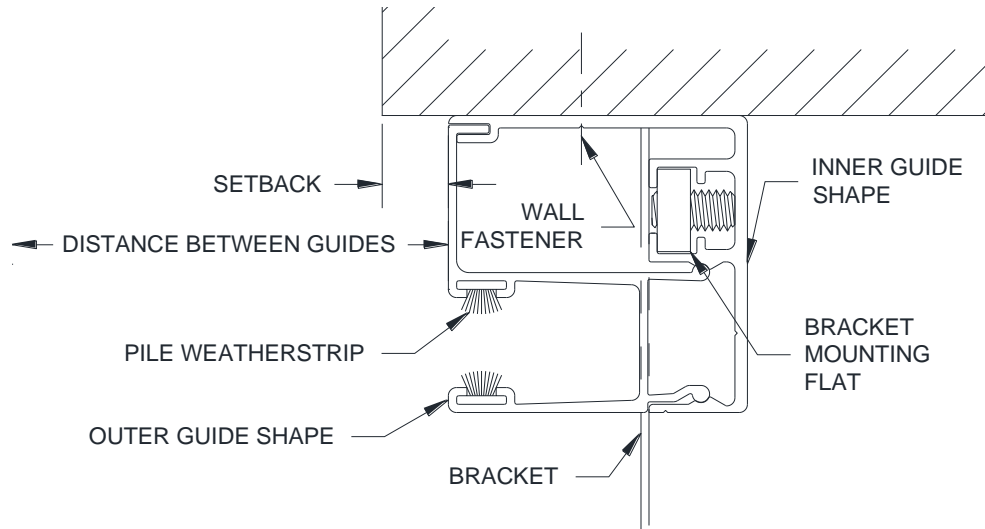
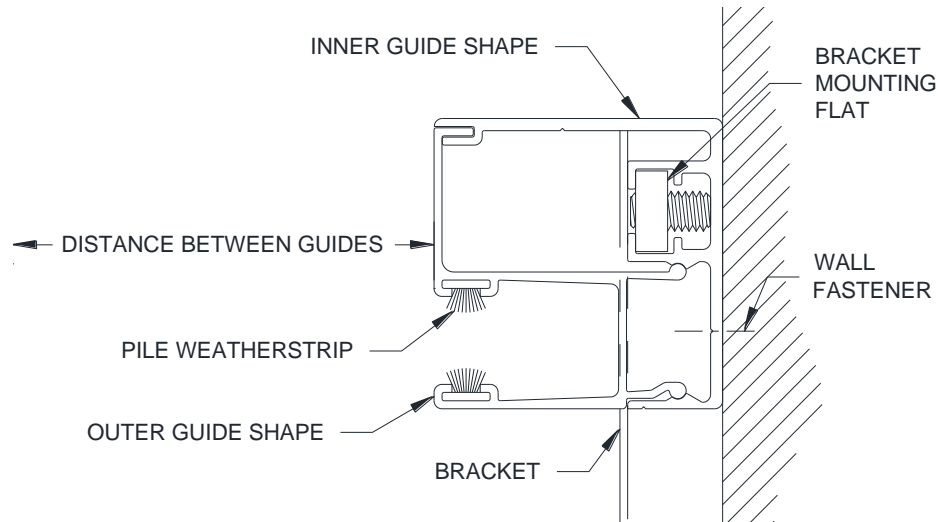
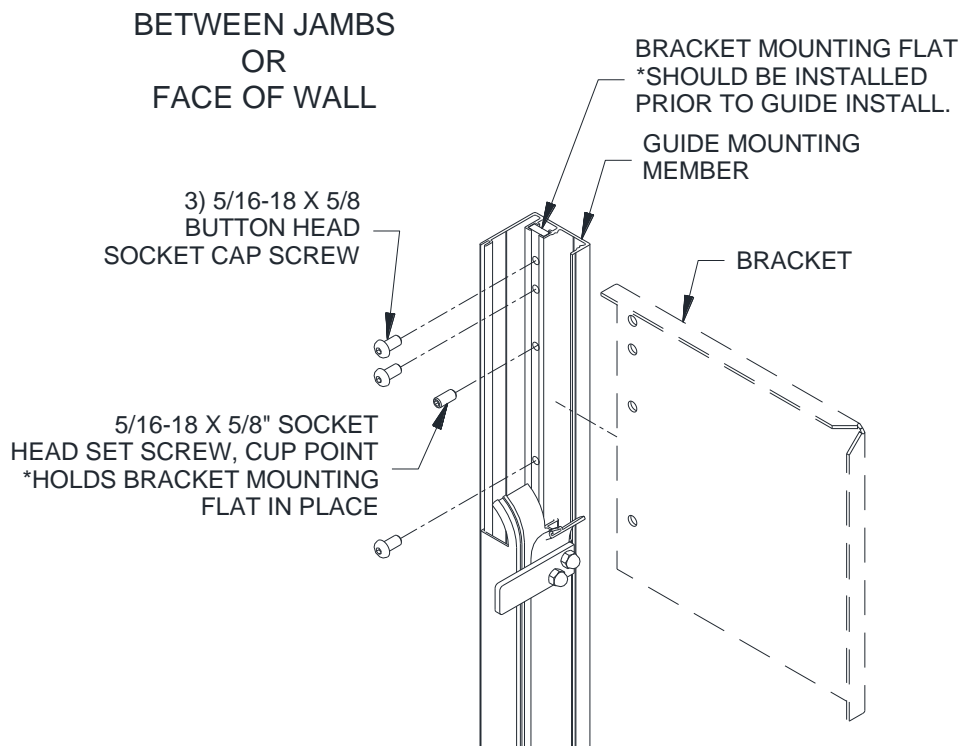

Figure 5.1 – Face of Wall Guide (extruded aluminum)
Figure 5.3 – Between Jambs Guide (extruded aluminum)
Figure 6.5– Bracket Mounting and Hardware for Aluminum Guides
▪ **Face of Wall Units (Figures 5.1 - 5.2):**
If the guides are extruded aluminum, install the bracket mounting flat at this time. This is done by sliding the flat into the top of the inner guide shape (see **Figure 5.1**) until it they are flush with each other at the top. Anchor the flat in place using the 5/16-18 socket head set screw. See **Figure 6.5** for orientation of flat.
If the guides are extruded aluminum, install the bracket mounting flat at this time. This is done by sliding the flat into the top of the inner guide shape (see **Figures 5.3 or 5.4**) until they are flush with each other at the top. Anchor the flat in place using the 5/16-18 socket head set screw. See **Figure 6.5** for orientation of flat.
3. Measure the distance between the brackets and compare that to the distance measured to the inner guide shapes for steel guides and to the mounting member (where the bracket mounting flat is located) for aluminum guides. See **Figures 6.5 and 6.6** below for bracket locations in relation to the guide shape.
7. Insert the specified bolts and snug tighten, see **Figures 6.5 and 6.6**.